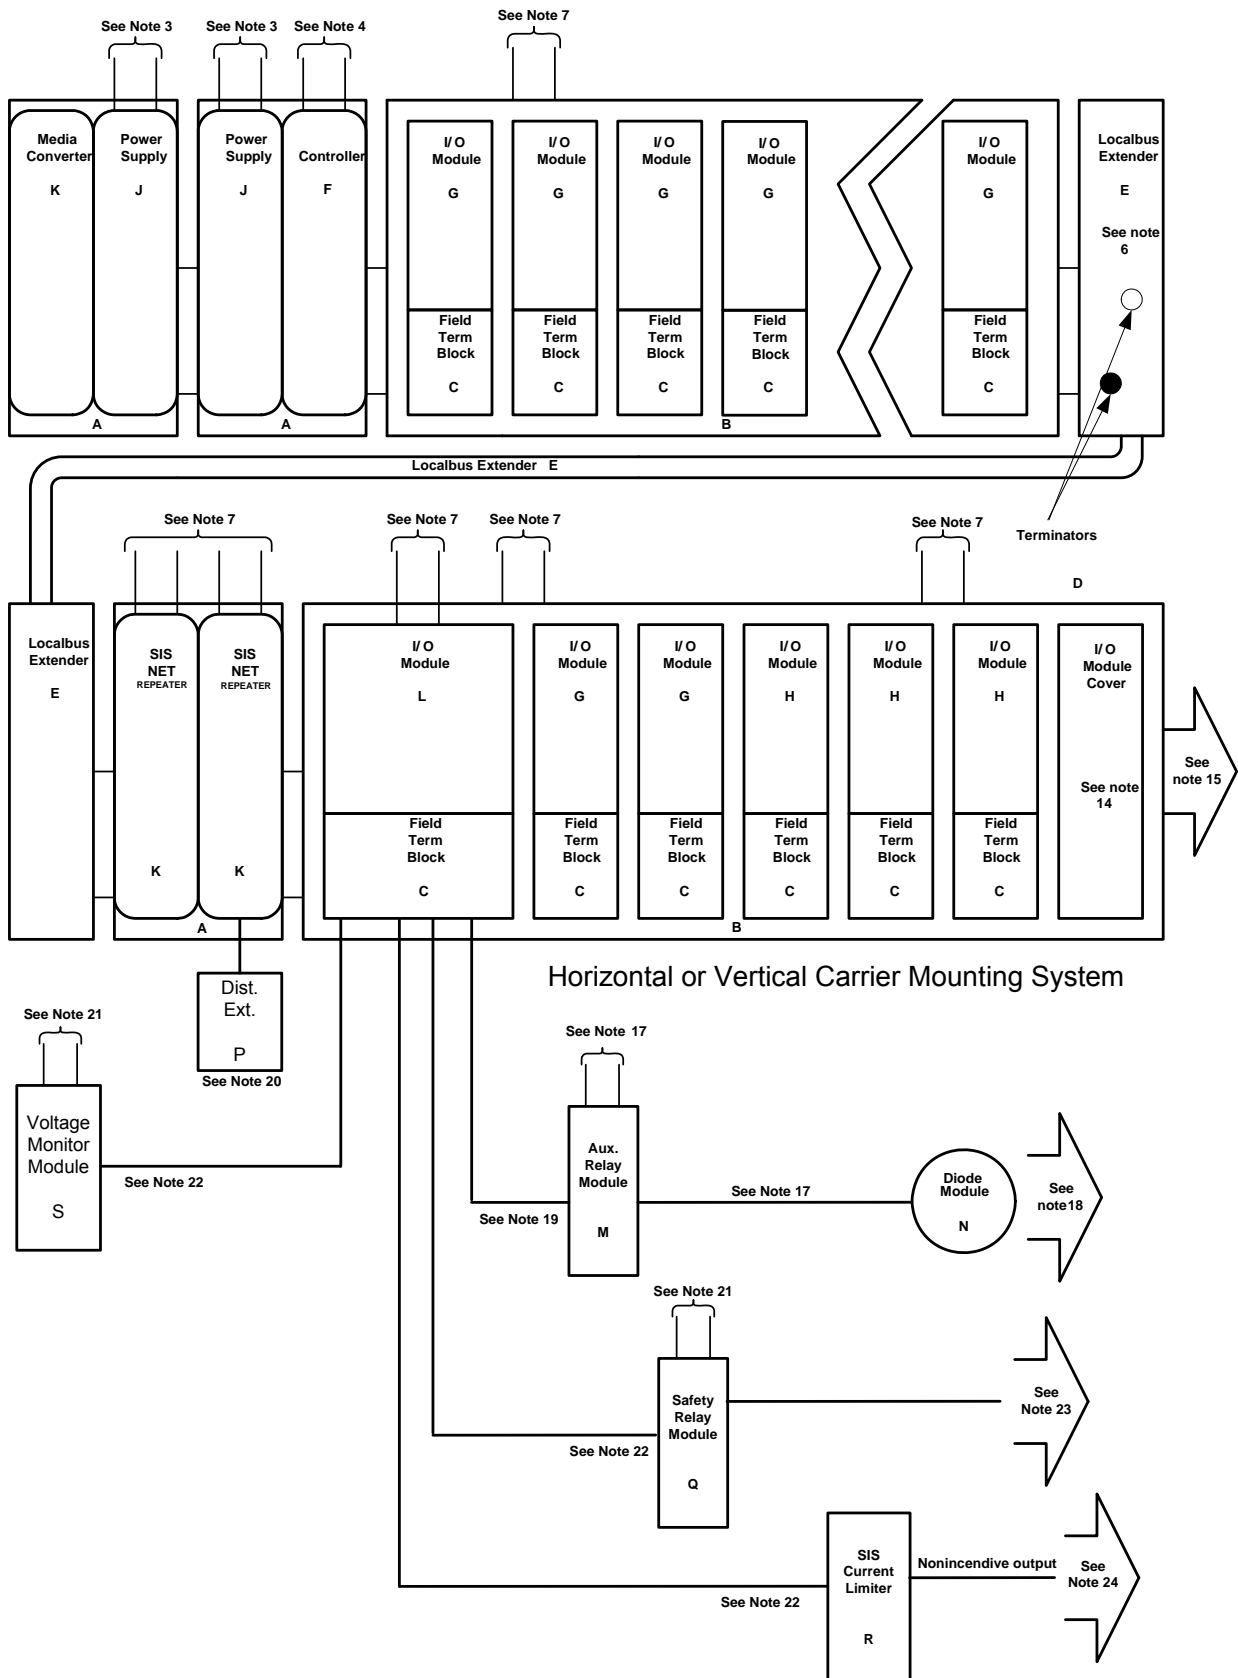

Figure 1
2. The System consists of the items noted in Figure 1 and in Table 1.